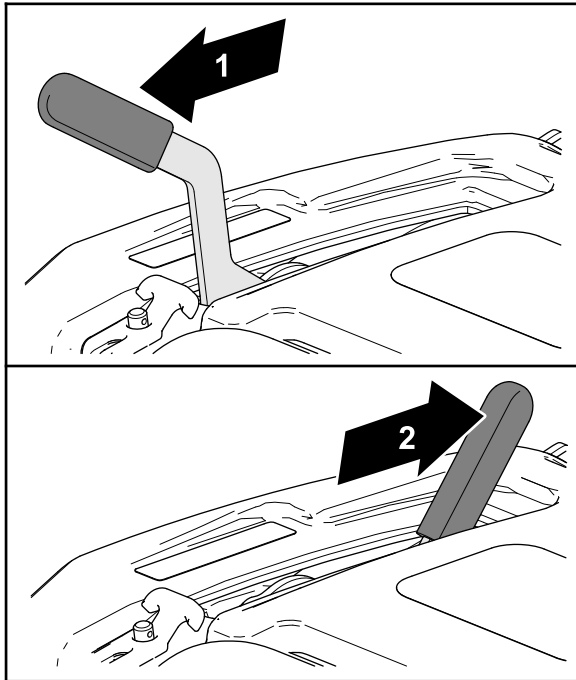

Figure 26
- Pull the parking brake handle to engage the parking brake (Figure 26).